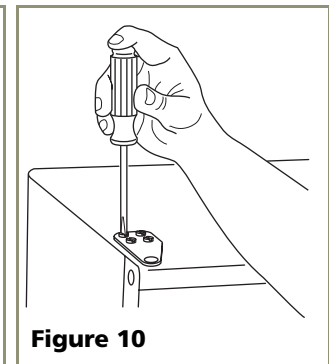

**Figure 8**
7. Install bottom hinge on cabinet, opposite side, aligning flat edge of hinge with outer edge of unit. Partially tighten screws. See **Figure 8**.